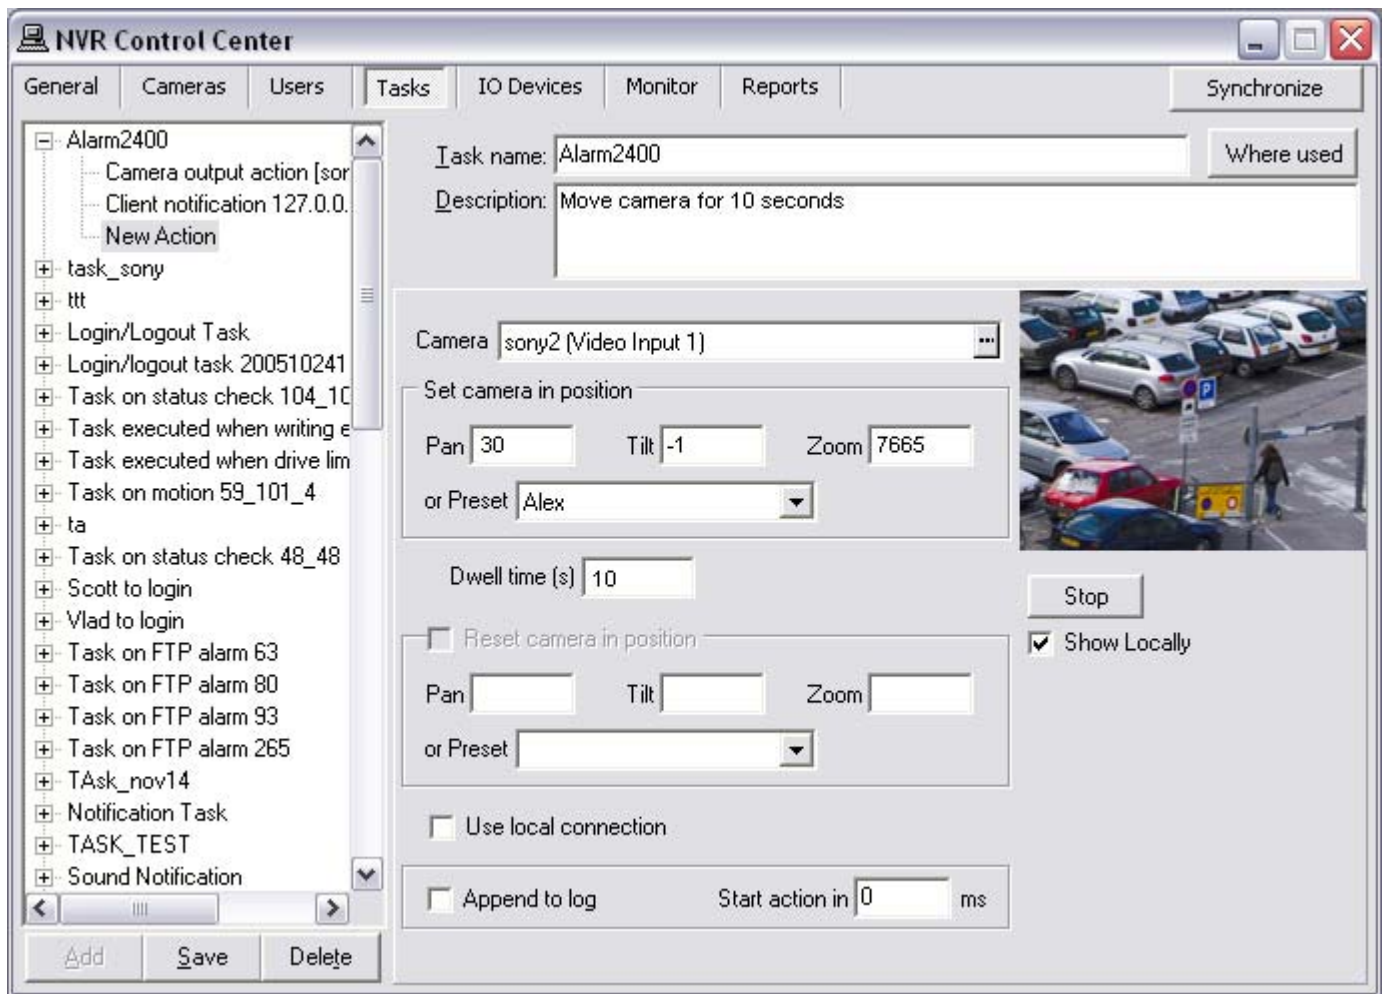

Fig 79. NVR Control Center — Tasks
1. Check **Use local connection** checkbox to connect to the camera using local IP address/port number during Move Camera action (Fig 79).